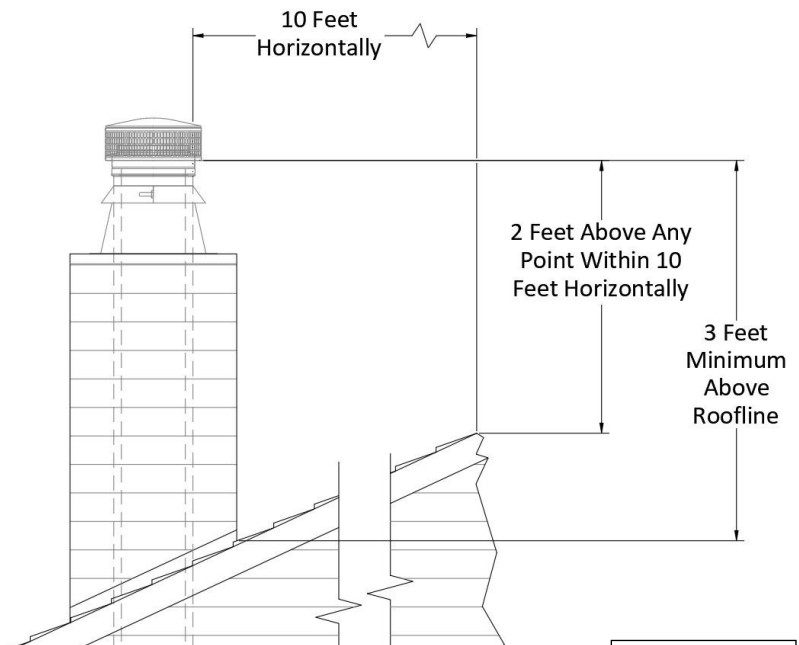

FIGURE 72
11. **Termination:** NFPA 211, "Standard for Chimneys, Fireplaces, Vents, and Solid Fuel-Burning Appliances", states that chimneys shall extend at least three feet above the highest point where it passes through the roof of a building, and at least two feet higher than any portion of a building within ten feet. **(Figure 72)**